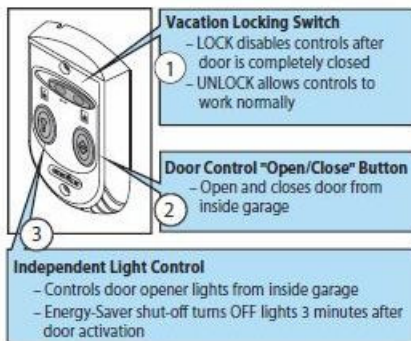

FIG 3-5 Mounting Entrapment warning label.
- Remove protective backing from "Entrapment" warning label (Fig. 3-5). The "Entrapment" label is located in the center of this manual.